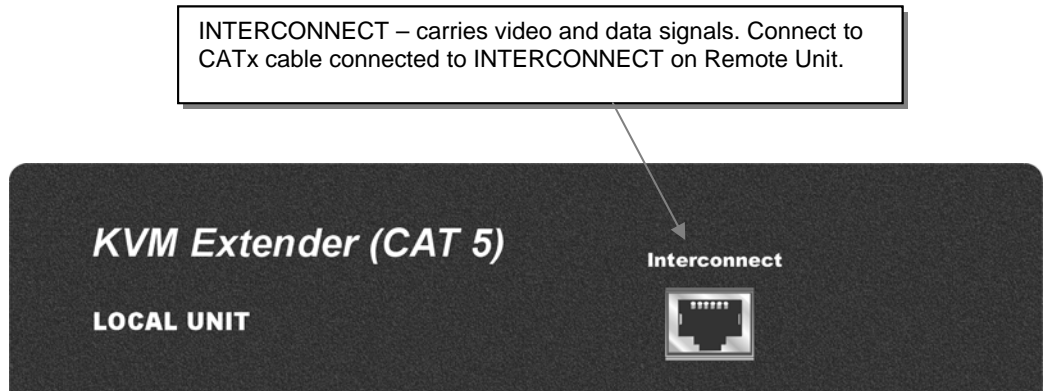

Figure 7 SDLink Local Unit – front view
6. Connect the CATx cable to the INTERCONNECT socket on the front of the Local Unit (see Figure 7).